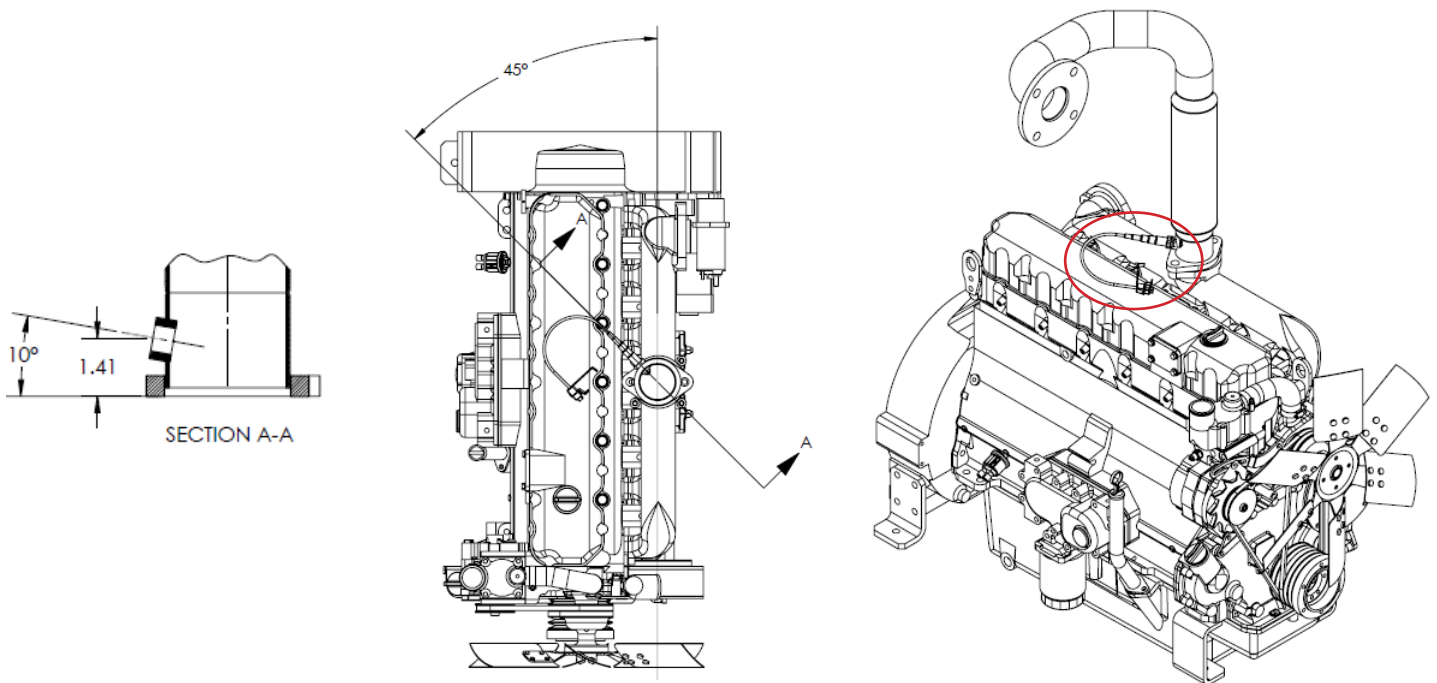

Figure 1
10. The pre-cat oxygen sensor (Figure 1, red circle) must be located per Arrow Engine specification.